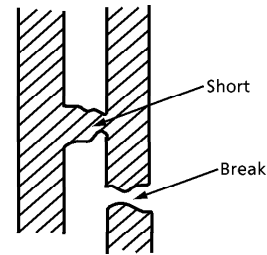

Figure 2 Lead pattern
- b) there is a short or break which affects electrical characteristics in any lead pattern (see Figure 2).